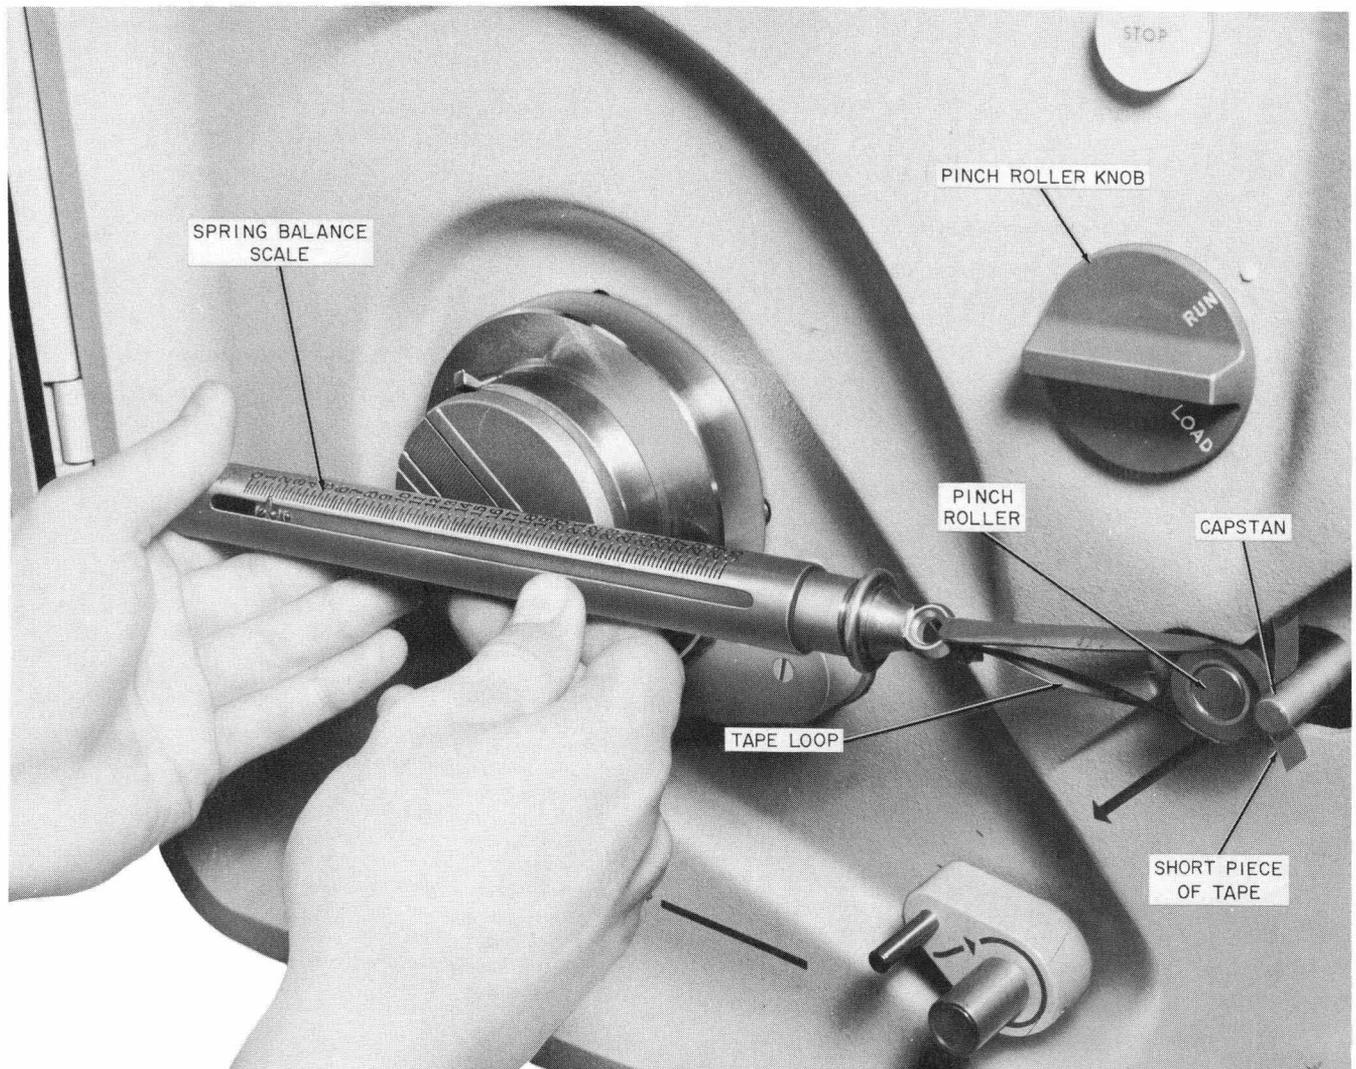

Fig. 14 — Set-Up for Checking Pinch Roller Pressure — Typical
(1) Operate the pinch roller knob to LOAD position.
(2) Form a tape loop by folding a 1-foot piece of magnetic tape lengthwise and tying the ends.
(3) Place the tape loop between the capstan and pinch roller with the loop to the left (Fig. 14).